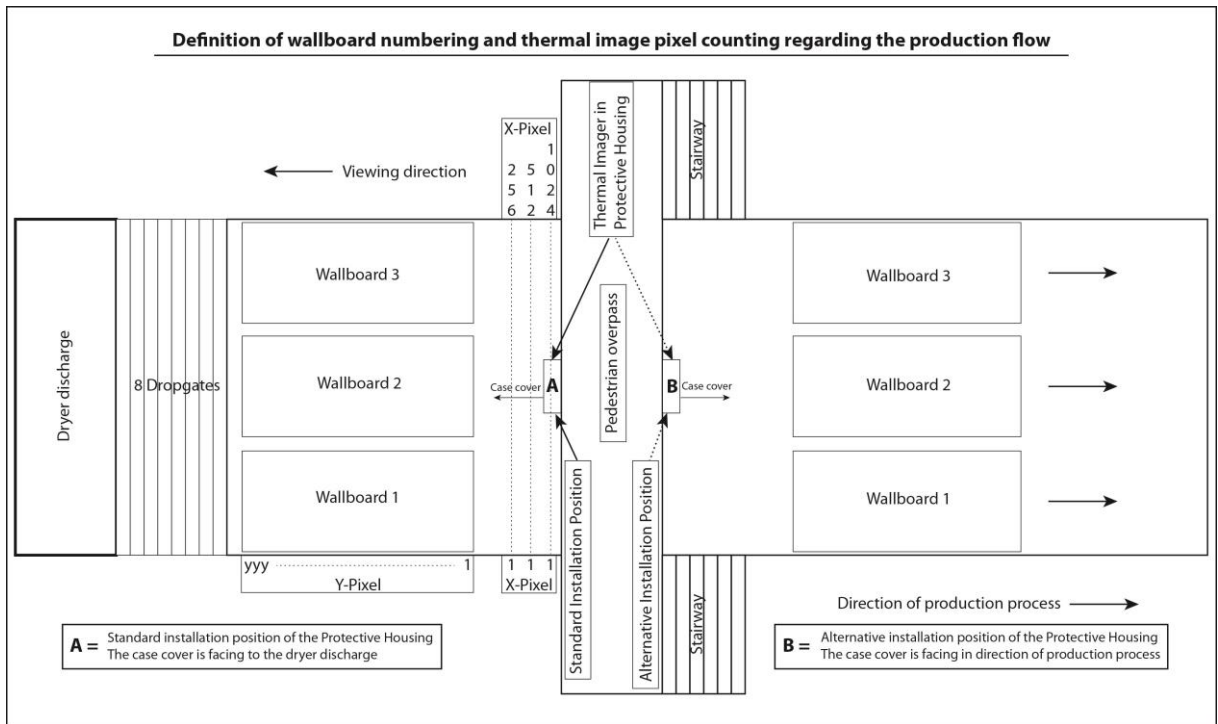

Figure 20: TIP900 Definitions for wallboard, image orientation and pixel numbering
The Thermal Imager comes with an installed air-purge collar and four (4) loose mounting stud bolts, 60mm (2.362") long, associated Allen® screws and a convenient Allen® wrench as separately shipped items. An expert on customer side has to install the sensitive Thermal Imager device in the Protective Housing prior to install the Protective Housing carefully at a frame. The mounting stud bolts elevate the center of the scan optic above the lower edge of the Protective Housing. Please be aware, that the Thermal Imager has center symmetric mounting screw threads and it's possible to install the device in the wrong orientation in the Protective Housing. The Thermal Imager has a fixed rotating scan direction and it's mandatory to be installed in the right orientation inside the Protective Housing. There are two possible installation positions of the Protective Housing described in Figure 20: TIP900 Definitions for wallboard, image orientation and pixel numbering.